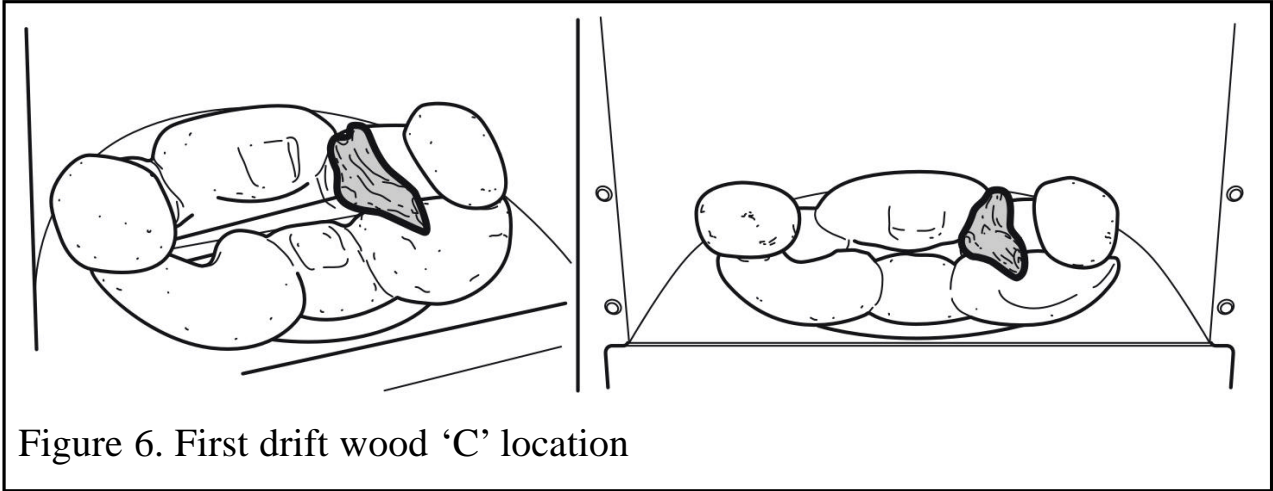

Figure 6. First drift wood 'C' location
5. Locate one of the drift wood 'C' pieces onto the right hand side of the pebble base next to pebble 'B'. There is a 'V' shaped indent in the right hand front pebble. Locate the pointed end of the 'C' driftwood onto the indent. The drift wood piece should bridge the gap between the front and rear halves of the pebble base (See figure 6).